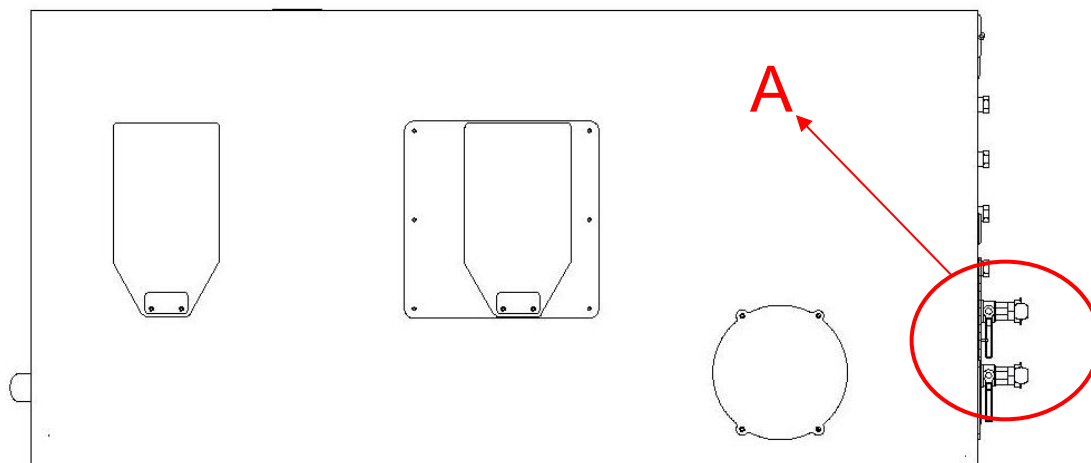
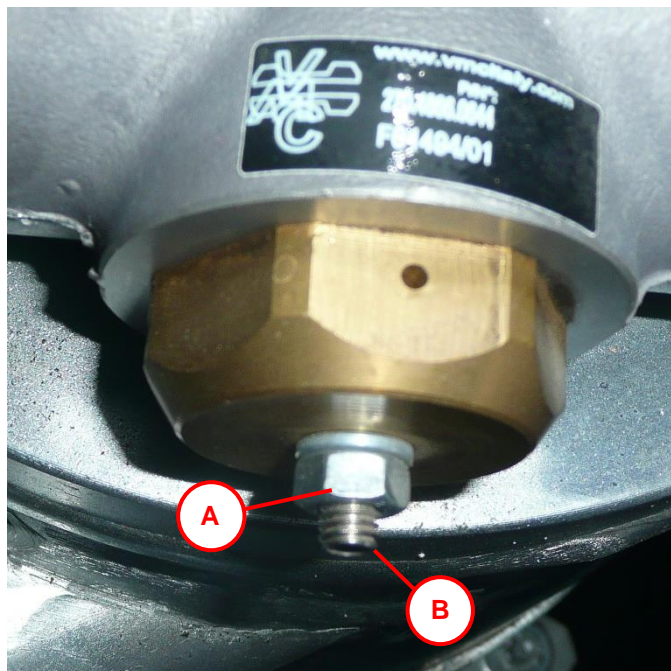

Figure 10.2.1 Location of the air valves (top view)
Figure 11.3.1 Adjusting the minimum air pressure
- 4) Progressively open the air valves (Figure 10.2.1, A).
- 3) Close all air valves (Figure 10.2.1)
- 3) Gradually open the air valve (Figure 10.2.1)
- 5) Loosen the 10mm lock nut on the minimum pressure valve (Letter A Figure 11.3.1)
- 8) Tighten the 10 mm lock nut (Letter A Figure 11.3.1) and close the air valves (Figure 10.2.1)
- 9) Slowly open the air valve (Figure 10.2.1) and close it again, repeating the process a few times to allow the settling of the minimum pressure air valve minimum 5 bar/73psi.